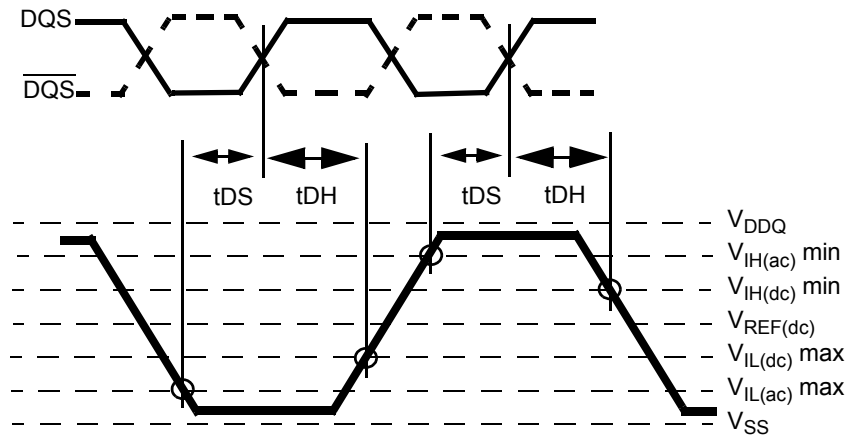

Figure 14 - Differential input waveform timing -  $t_{DS}$  and  $t_{DH}$
17. Input waveform timing  $t_{DS}$  with differential data strobe enabled  $MR[bit10]=0$ , is referenced from the input signal crossing at the  $V_{IH(ac)}$  level to the differential data strobe crosspoint for a rising signal, and from the input signal crossing at the  $V_{IL(ac)}$  level to the differential data strobe crosspoint for a falling signal applied to the device under test.  $DQS$ ,  $\overline{DQS}$  signals must be monotonic between  $V_{IL(dc)max}$  and  $V_{IH(dc)min}$ . See Figure 14.
18. Input waveform timing  $t_{DH}$  with differential data strobe enabled  $MR[bit10]=0$ , is referenced from the differential data strobe crosspoint to the input signal crossing at the  $V_{IH(dc)}$  level for a falling signal and from the differential data strobe crosspoint to the input signal crossing at the  $V_{IL(dc)}$  level for a rising signal applied to the device under test.  $DQS$ ,  $\overline{DQS}$  signals must be monotonic between  $V_{IL(dc)max}$  and  $V_{IH(dc)min}$ . See Figure 14.